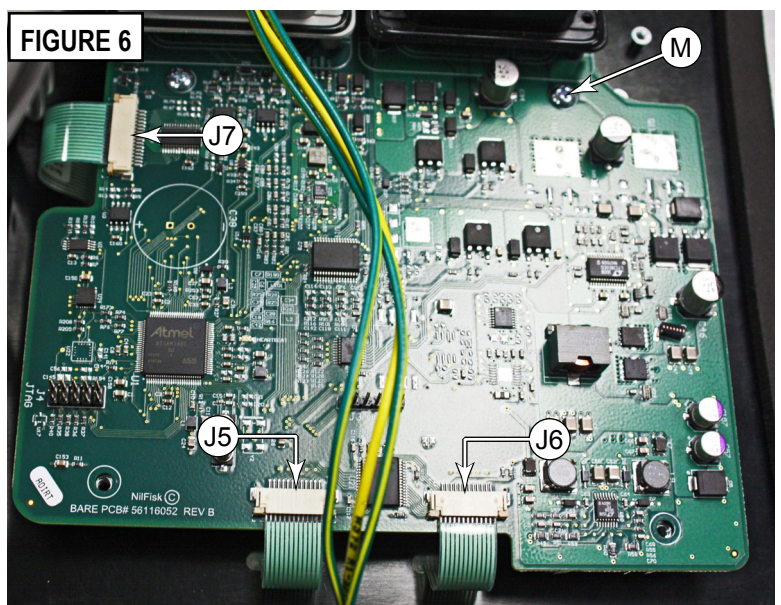

FIGURE 6
22. **See Figures 6 and 7.** Remove the 3 top-side ribbon cables (**J5**, **J6**, **J7**): For troubleshooting reference, J5 and J6 are for the membrane switches and J7 is for the interface panel LEDs.